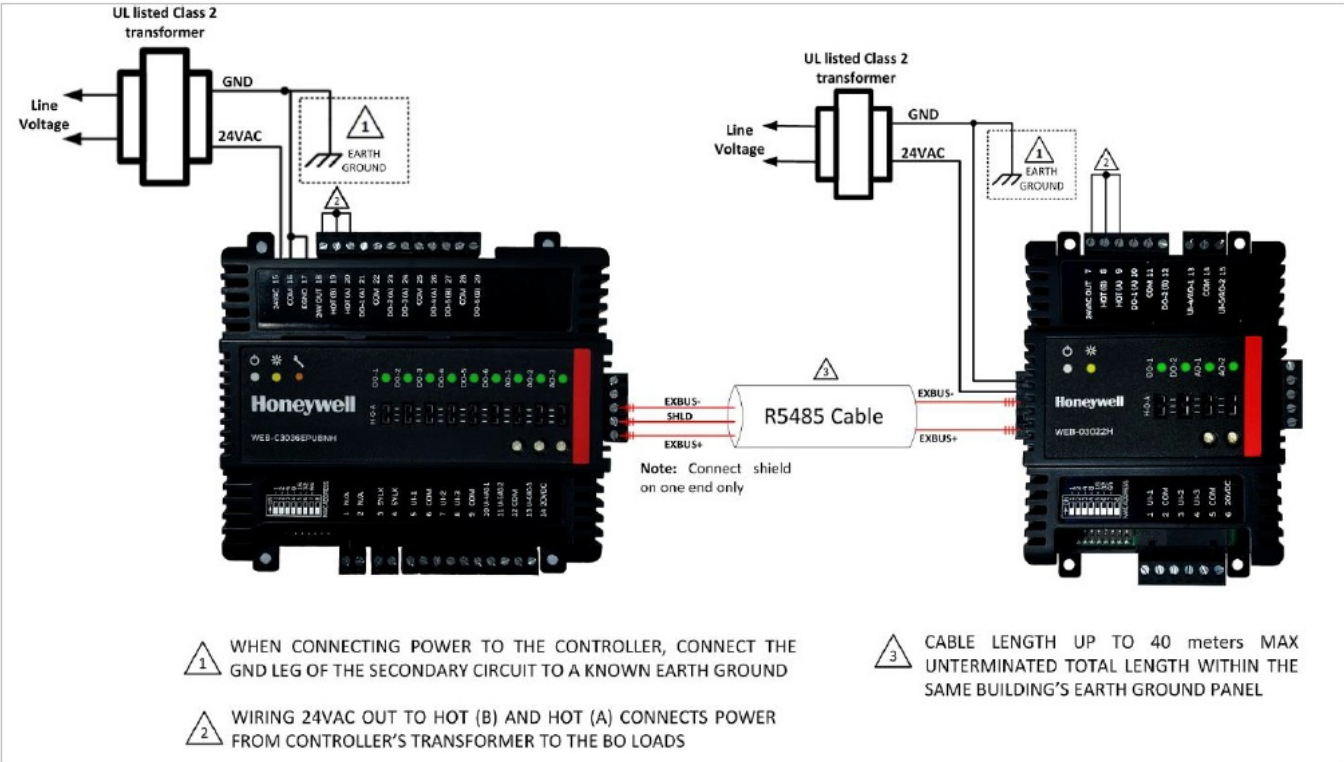

Figure 2: Remotely power wiring connection for CIPer Model 30 Controllers and EXPIO
5. Both Expansion I/O modules WEB-O3022H and WEB-O9056H can be connected directly to the WEB-C3036EPVBNH controller as shown in Fig. 2.